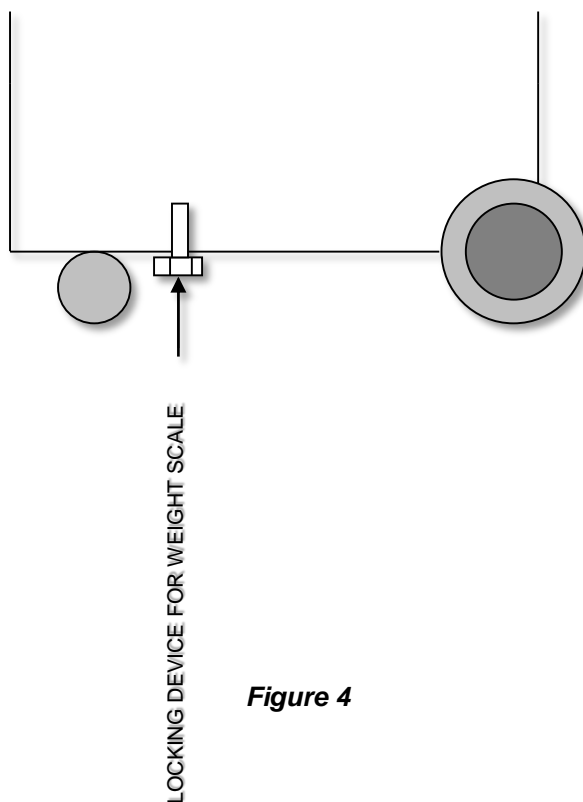

Figure 4
- Connect the external gas tank to the station using the high pressure coupling (**RED**), orienting the tank as in Figure 4 according to float presence or absence.